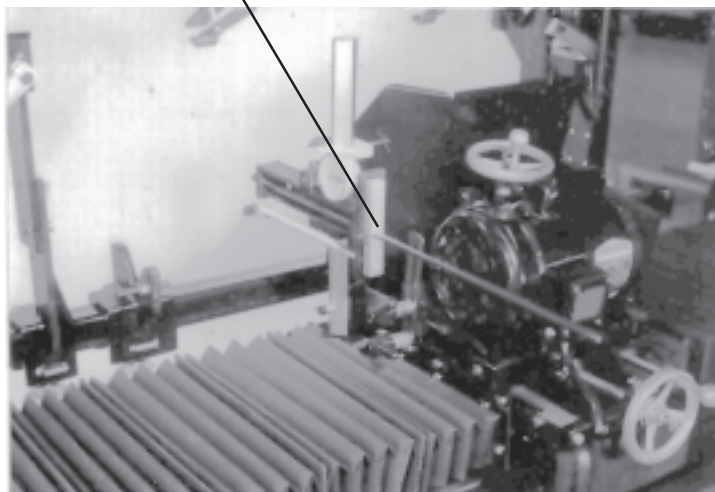

FIG. 33
The fixture is mounted to the front left corner of the grinding head assembly as shown in FIG. 33.
- A. Mount the set up fixture into position on the left front side of the grinding head assembly. See FIG. 33.